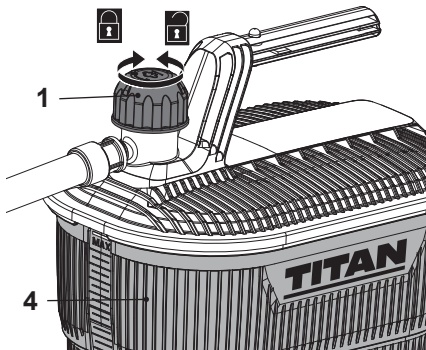

Fig. 7
2. Unscrew the safety cap (1) anti-clockwise and remove it from the water tank (4) (Fig. 7).